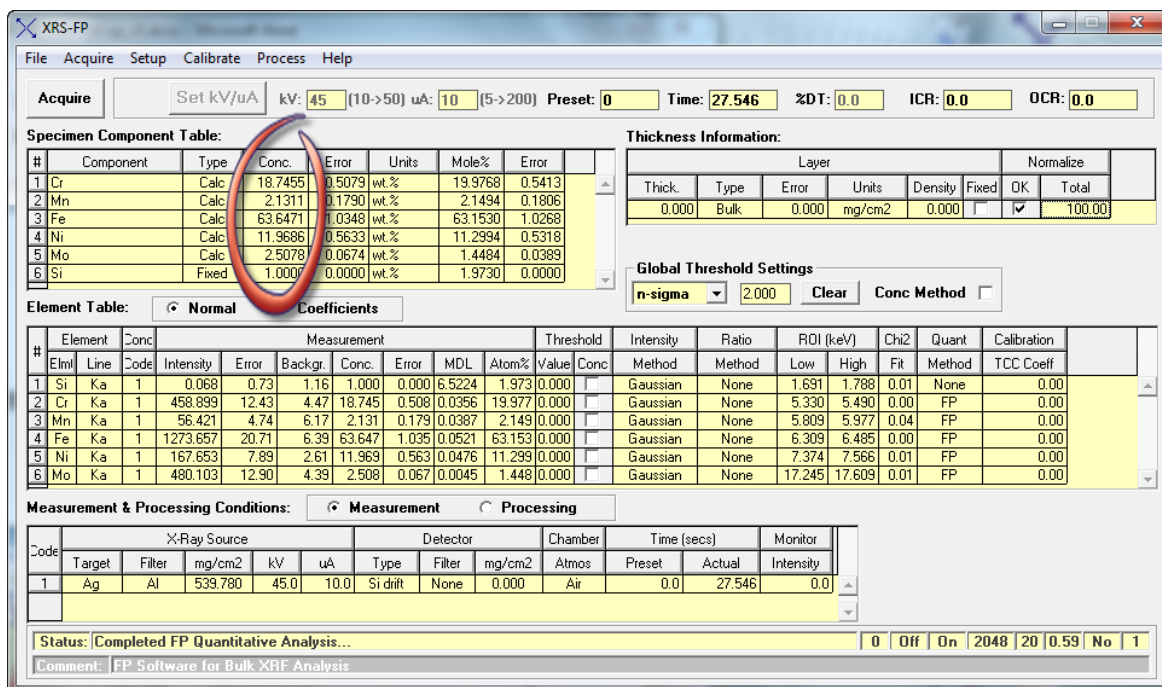

Figure 18. XRS- FP Expert Panel. Observe that the concentration for each component is now displayed in the “Specimen Component Table.”
- Then select: **Process -> Analyze** from the XRS-FP Expert Panel. Notice that there are now concentrations displayed for each component in the “Component Table” (see Fig. 18 below).